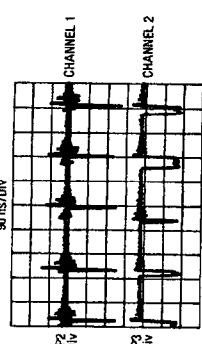

Figure 8-57. A3A1A3TP2 and TP3 Waveforms
18. Connect the oscilloscope to A3A1A3TP3 and TP2. Press PRESET (3 GHz). Observe the waveforms which should be as shown in Figure 8-57. Repeat this step for A3A1A3TP4. If the waveforms are not as shown, the Phase/Frequency Detector U1 is faulty and should be replaced.